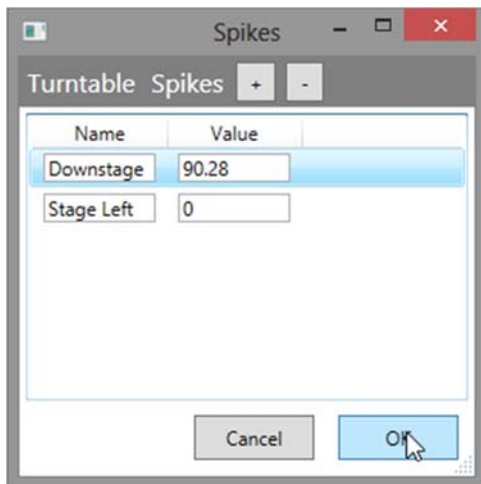

Figure 57
4. Select the *Downstage* **Spike** to use it in *Cue 1.234* (Figure 57).